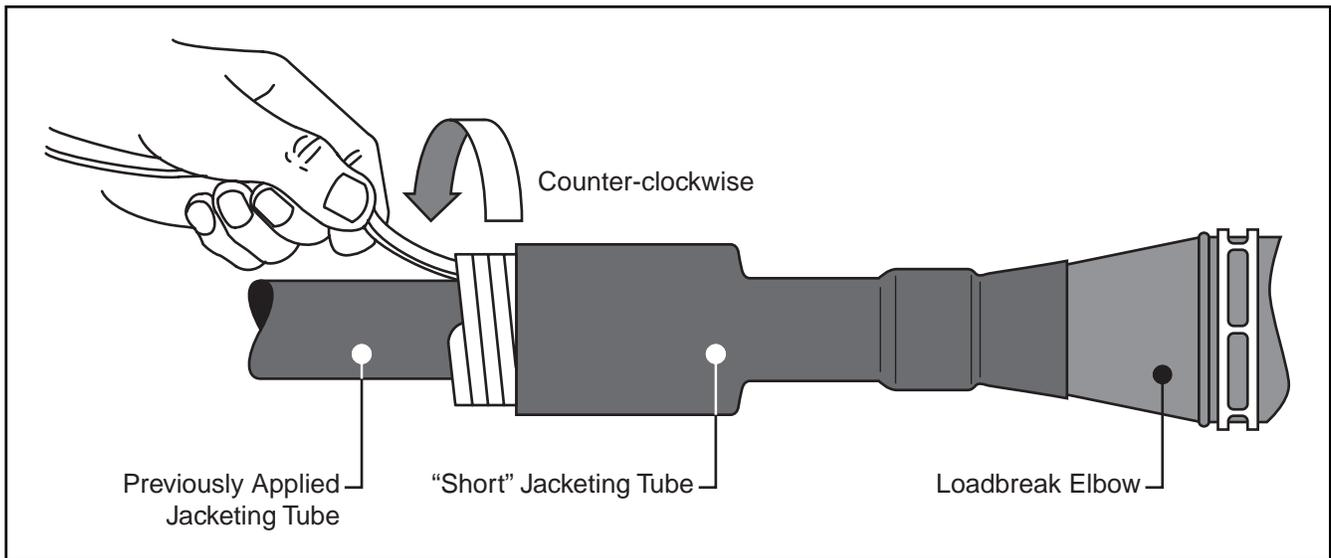

Figure 15
7.4 Slide “long” cold shrink jacketing tube over shield sleeve, aligning the tube (not the core) with the base of the elbow. Remove cold shrink core by UNWINDING COUNTERCLOCKWISE. (Figure 15.)
7.5 Slide “short” cold shrink jacketing tube onto tapered base of elbow, covering spring and Scotch® Super 33+™ Vinyl Electrical Tape. Remove cold shrink core by UNWINDING COUNTERCLOCKWISE. (Figure 15.)